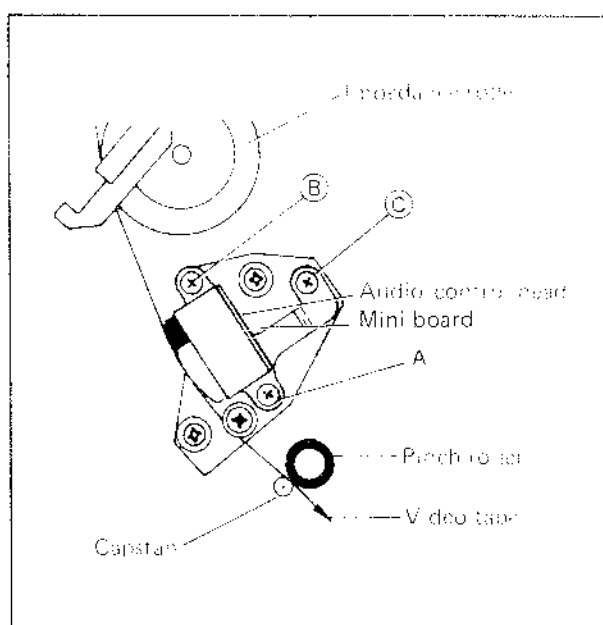

Fig. 5-24
1. Remove three screws (A), (B), (C) as shown in Fig. 5-24.
4. Install the new head assembly in the correct position by using three screws (A), (B), (C) as shown in Fig. 5-24.